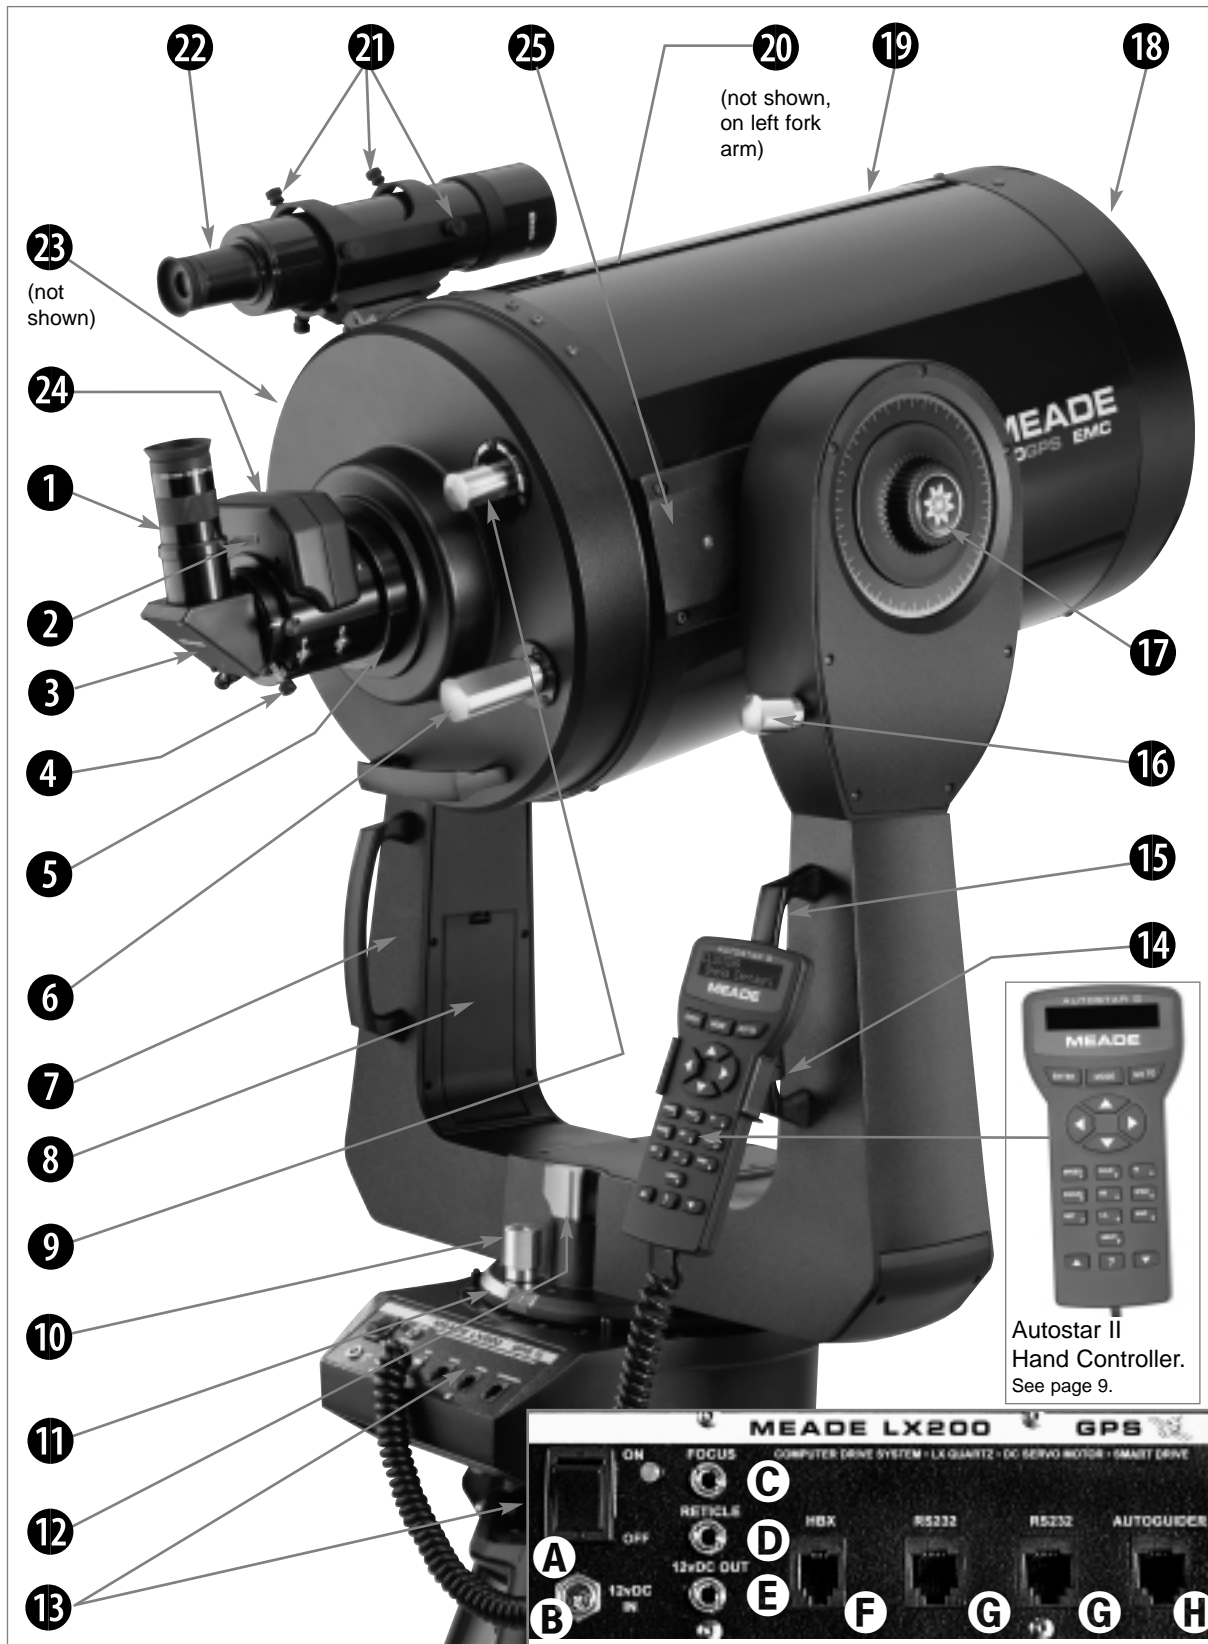

Fig. 1: The LX200GPS Telescope; Computer Control Panel (inset); Autostar II Handbox (inset).
Sight along the side of the telescope's main tube to locate an object. Rotate the mirror lock knob (9, Fig. 1) towards the "Unlock" position, until it feels loose—the telescope is shipped with the mirror locked. Use the telescope's coarse focus knob (6, Fig. 1) to bring the object into focus. Practice using the Autostar II Arrow keys to center an object in the telescope's field of view.
- 1 **Eyepiece:** Place the Super Plössl 26mm eyepiece into the 90° diagonal prism (3, Fig. 1) and tighten in place with the eyepiece thumbscrew (2, Fig. 1). The eyepiece magnifies the image collected in the optical tube.
- 2 **Eyepiece Thumbscrew:** Tightens the eyepiece (1, Fig. 1) in place. Tighten to a firm feel only.
- 13 **Computer Control Panel (see Fig. 1 inset):**
When loosening the Dec. lock, be sure to support the optical tube (**19**, Fig. 1). The weight of the tube could cause the tube to swing through the fork arms suddenly.
24 **4-Speed Zero Image-Shift Microfocuser:** Allows precise image focus during visual, CCD, and astrophotographic applications. Maintains precise image centering on even the smallest CCD chips. Operates at four speeds: Fine to fast using the Arrow keys of the Autostar II hand controller. Plug microfocuser into the Focus port (**13C**, Fig. 1).